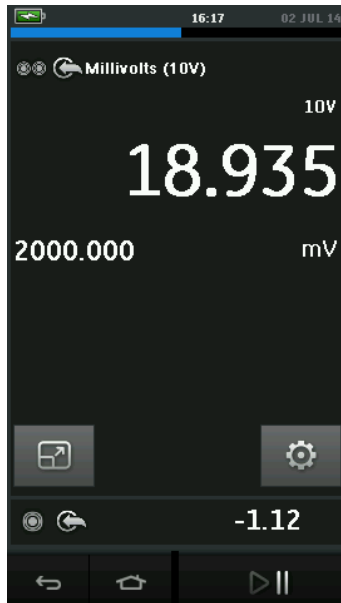

Figure 2-19 Calibration Window - Expanded View
- *Figure 2-19* displays an expanded view of the selected channel and minimizes the remaining channels.